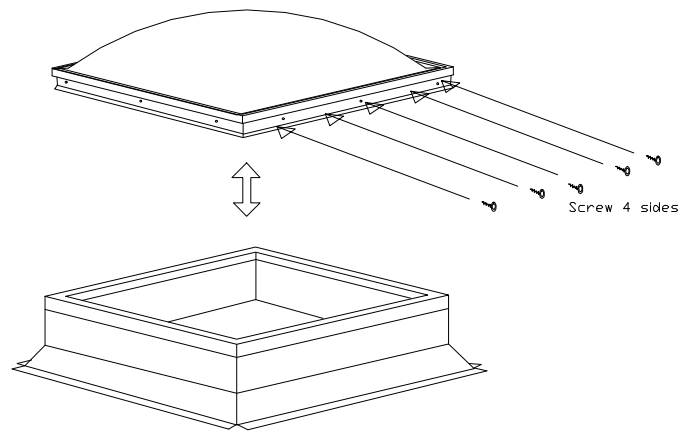

Fig. 9
8. Remove blue liner from the dome assembly. Apply gasket (not supplied) around the curb and lower dome onto curb. Make sure it is square on the curb and attach with #8 to 10 Wood screws. (Fig. 9)